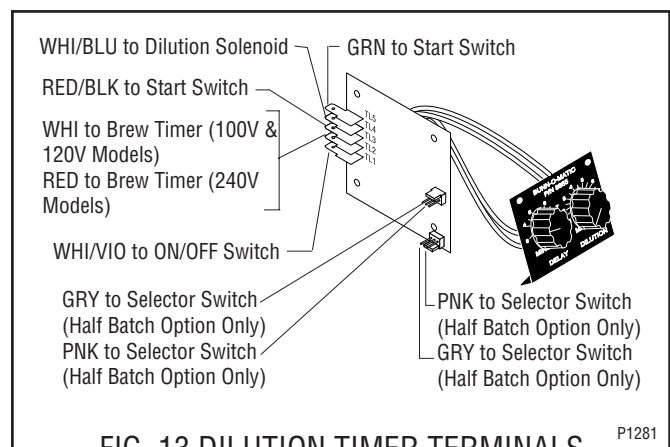

FIG. 13 DILUTION TIMER TERMINALS
5. Refer to Fig. 13 when reconnecting the wires.